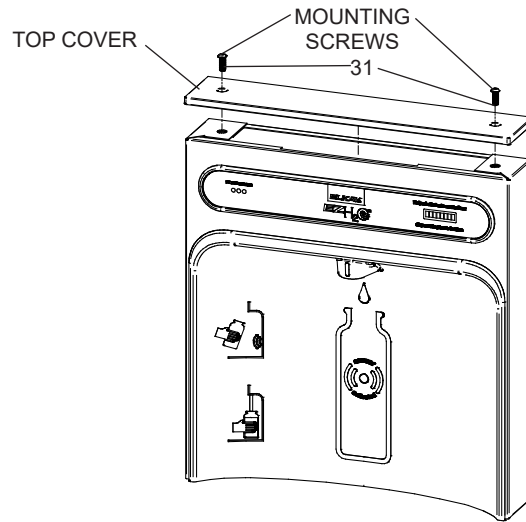
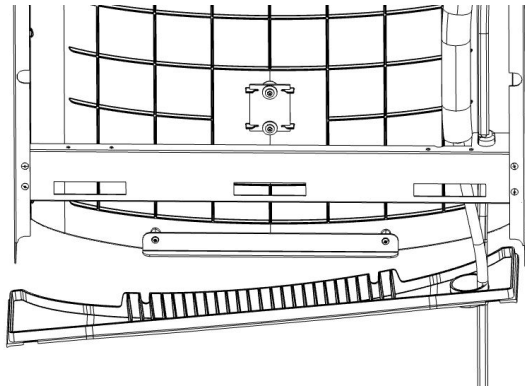

Fig. 9
Fig. 10
- 1) **Remove two (2) mounting screws** with 5/32" Allen wrench holding top cover to Bottle Filler (See Fig. 9). Remove top cover. Note do not discard mounting screws, they will be needed to reinstall top cover.
- 7) **Feed power cord** & 3/8" water line through hole in tower/basin gasket (See Fig 10).
- 8) **With the power cord**, wire(s), and waterline through hole on top of water cooler place Bottle Filler on the three (3) angled tabs protruding from the wall mounting plate installed on wall. Make sure round boss in gasket fits in hole of basin.
- 9) **Once Bottle Filler is installed** on wall plate tabs, make sure the water line, wire(s) and power cord are installed properly. Inspect for leaks and fix all leaks before continuing. Push the top of Bottle Filler toward wall and line up top cover two (2) holes.
- 10) **Reinstall Top Cover** on Bottle Filler (See Fig. 9) with two mounting screws from step 1 above. Caution, do not over tighten screws.